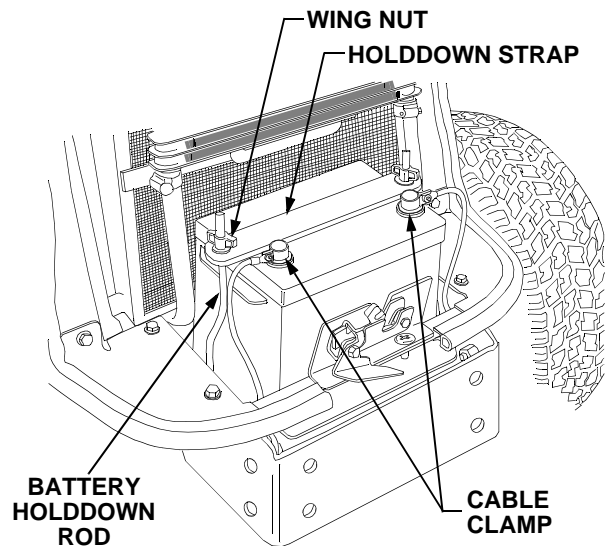

Figure 33
- Remove the two wing nuts and the battery holddown strap from the battery holddown rods. See Figure 33.